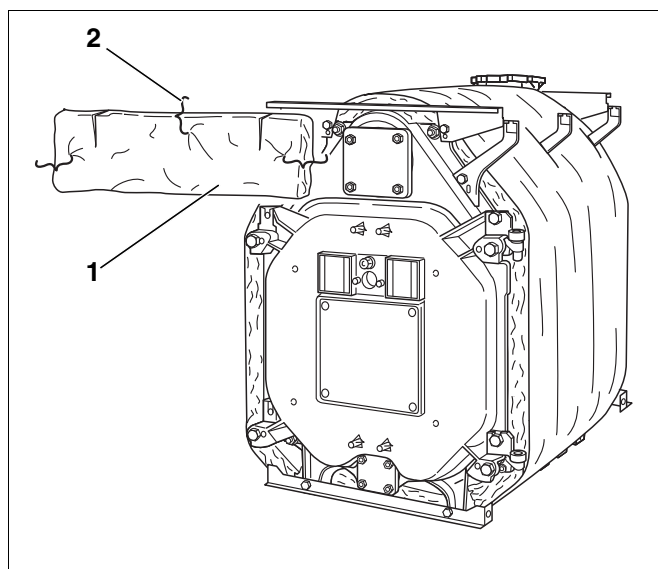

Fig. 44 Installing the thermal insulation at the front
- Fit rectangular thermal insulation (Fig. 44, [1]) with the cutouts facing upwards at the front above the door.
- Fasten thermal insulation to the block thermal insulation with the 3 tensioning springs (Fig. 44, [2]).